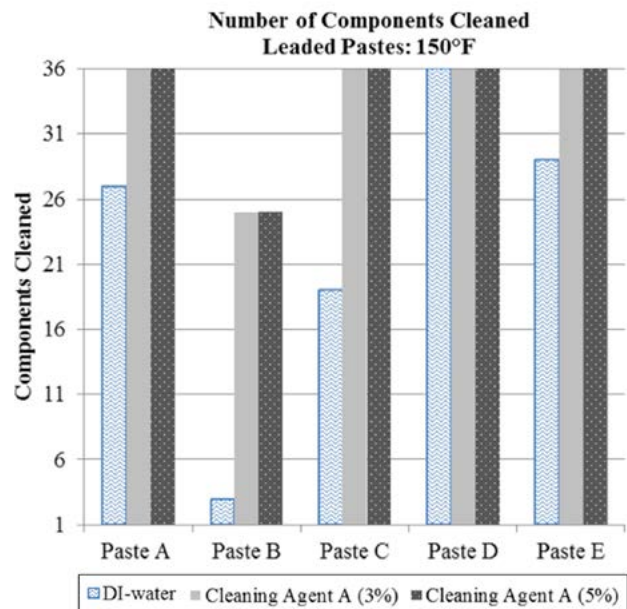

Figure 10: Results - Paste Analysis
- Completely cleaned surface underneath all components at 150°F temperature using Pastes A, C, D, and E (Figure 10).